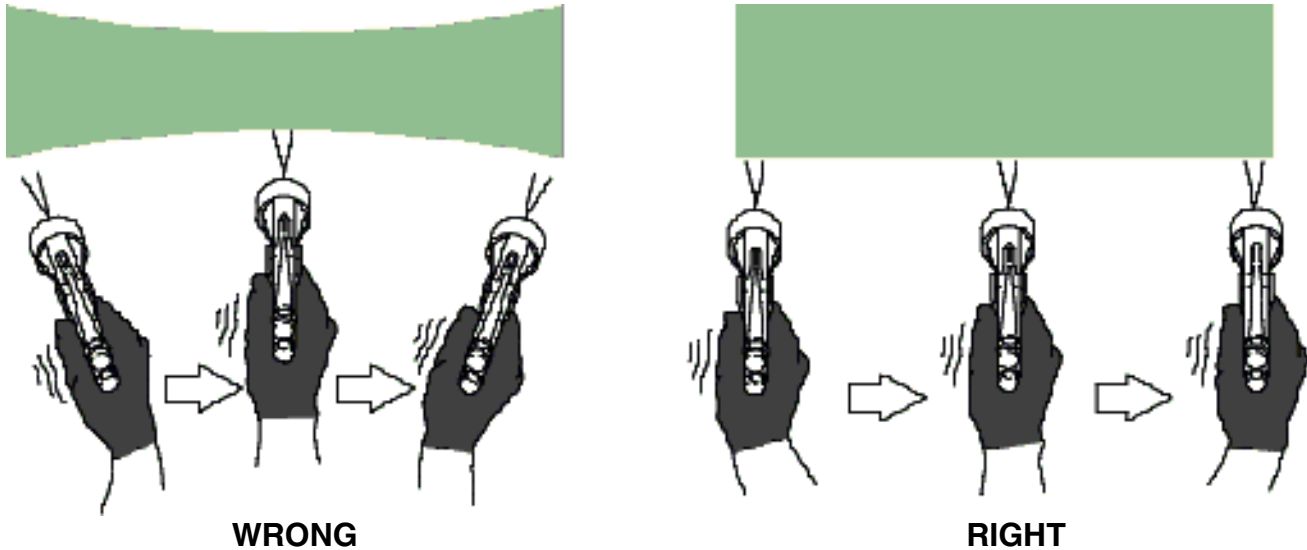

Fig. 14
1. To achieve the best results when applying fluid, keep the gun perpendicular to the surface and maintain a consistent distance of approximately 6 to 8 inches (150 to 200 mm) from the object being sprayed. See Fig. 14.